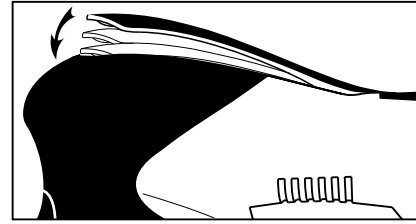

figure 4
2. Intermediate speeds between Zero (0)/min (RPM) and the set Maximum Speed can be used with intermediate Lever positions. - see figure 4.